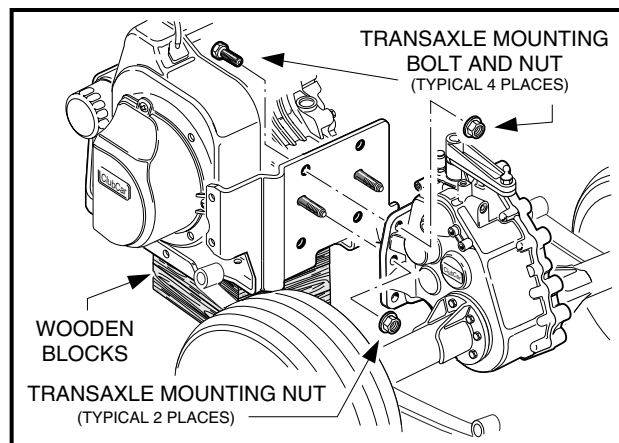

FIGURE 10-35
- 19.1. Use two 14 mm wrenches to remove the two top transaxle mounting bolts (one at each upper corner of the transaxle mounting plate) as shown (**Figure 10-35**).
- 19.2. Remove the two bottom transaxle mounting bolts in the same way the top ones were removed (**Figure 10-35**).
- 19.3. Use one 14 mm wrench to remove the two middle transaxle mounting nuts as shown (**Figure 10-35**).